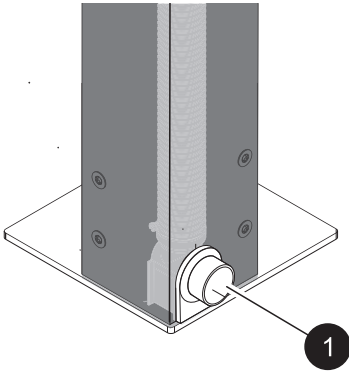

Fig. 18: Cleaning the water drain
4. Check the water drain in the nozzle or nozzles (Fig. 18/1) for smooth outlet, if necessary, remove any dirt from the outlet.